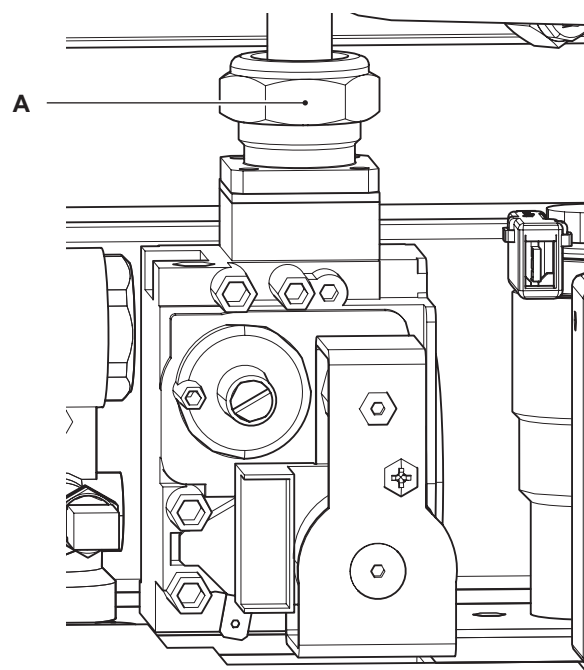

Figure 16.1
- Unscrew the connector A to the gas pipe (Figure 16.1).
gas circuit check all the connections for gas tightness (Figure 16.1).